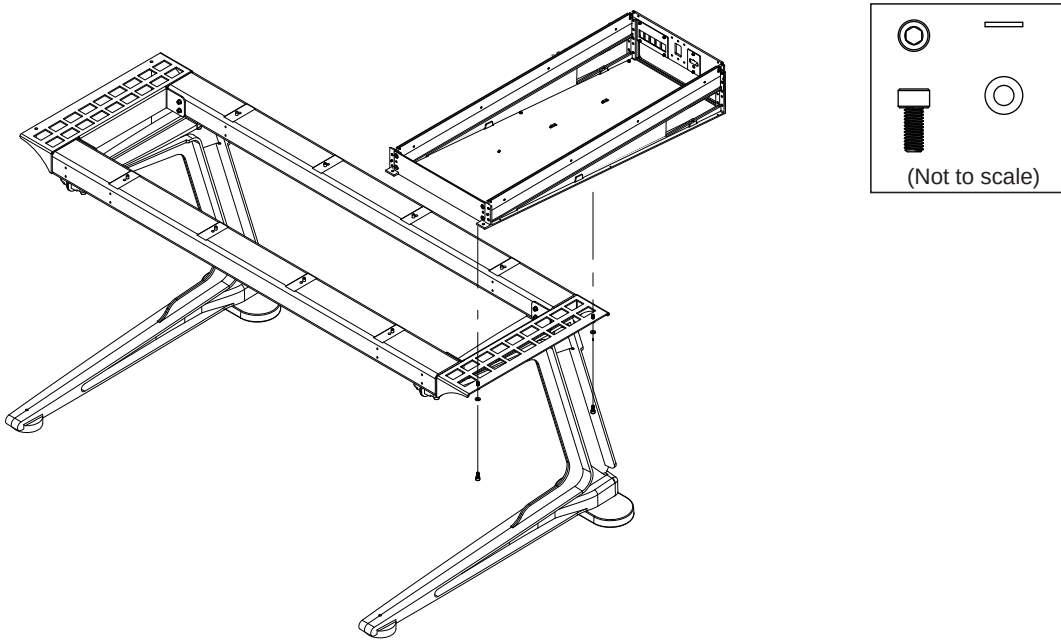

Figure 16. Attaching the first chassis to the Beams of a Leg Frame
- 5 If your system includes a Leg Frame, mount the first chassis on the Beams and secure it loosely to the right end shelf from underneath using Hex fasteners (included with the Beams) as shown in Figure 16. Make sure the pins on the top of the Beams align with and fit through the openings in the Chassis Bottom Plate. Do not tighten the fasteners yet.
- 7 If your system includes a Leg Frame, attach the second chassis to the Beams and secure loosely using more of the Hex fasteners included with the Beams as shown in Figure 16. Tighten them enough to hold the chassis in place, but do not tighten them fully.